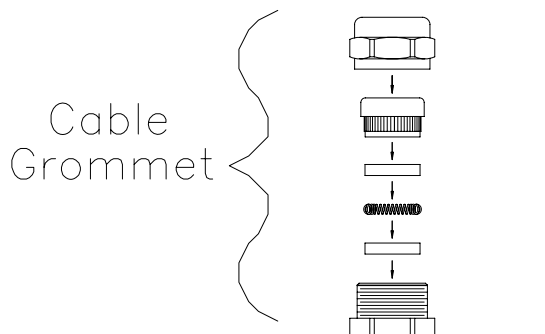

Figure 6: Cable Grommet
1. Remove the cable grommet hardware from the desired I/O connector housing (see Figure 6).
4. Slide the cable grommet hardware onto the cable in the order shown in Figure 6.